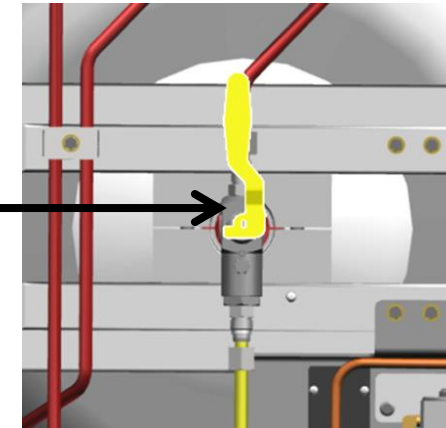

figure 1
3. Turning off (CLOSING) Ball Valve style valve, turn the valve handle clockwise until handle stops turning. Turning on (OPENING) Ball Valve style valve, turn the valve handle counterclockwise until handle stops turning. (Figure 1 and 2)